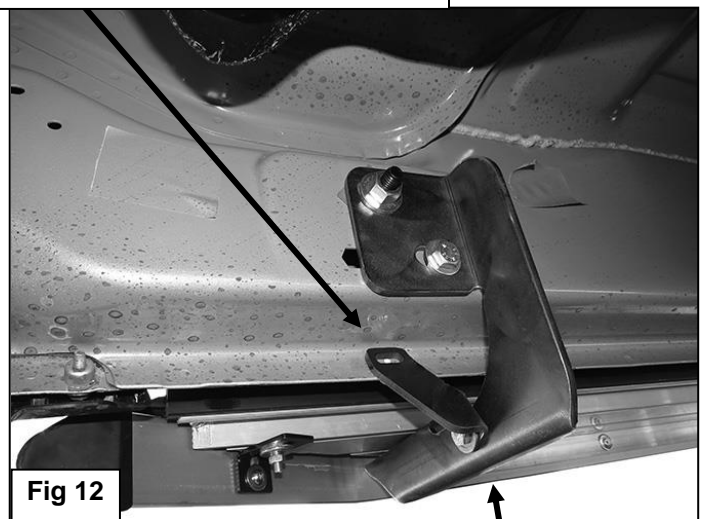

Fig 12
9. Move to the front Bracket location. Select (1) passenger/right front or center Support Bracket, **(Figure 11)**. Bolt the bent end of the Bracket to the front of the Mounting Bracket with (1) 8mm Hex Bolt, (2) 8mm Flat Washers and (1) 8mm Nylon Lock Nut, **(Figure 12)**. Leave loose at this time.
- a) Adjust Mounting Brackets up or down to level the Running Board with the Support Brackets above the bottom edge of the pinch weld. Mark the location of the hole in the Support Bracket onto the back of the pinch weld, **(Figures 12 & 13)**. **IMPORTANT:** Make sure that you do not mark or drill too close to the edge of the pinch weld.
- b) Repeat as necessary to line up and mark all (3) Support Bracket locations.
- c) Move the (3) Support Brackets out of the way. Use a 5/16" (or 8mm) drill bit to drill through the pinch weld for all (3) Support Brackets. **IMPORTANT:** Do not drill for Support Brackets until after the Running Board has been completely installed and adjusted. Any cutting or drilling tool may break or shatter. Government regulations require safety glasses & equipment at all times when cutting or drilling.